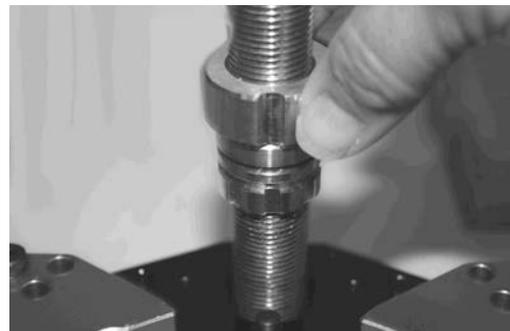

Figure 14
4. Turn the carriage nut clockwise ensuring when you complete your adjustment that the slot in the carriage nut aligns with one of the slots on the antibracklash nut. (Figure 14)